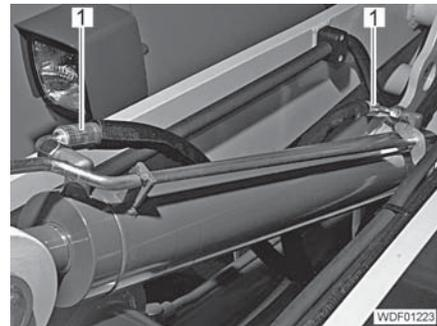

Fig. 203 Hydraulic lines
- Screw the hydraulic lines (Fig. 203,1) onto the rod-end and bottom end connections and tighten.